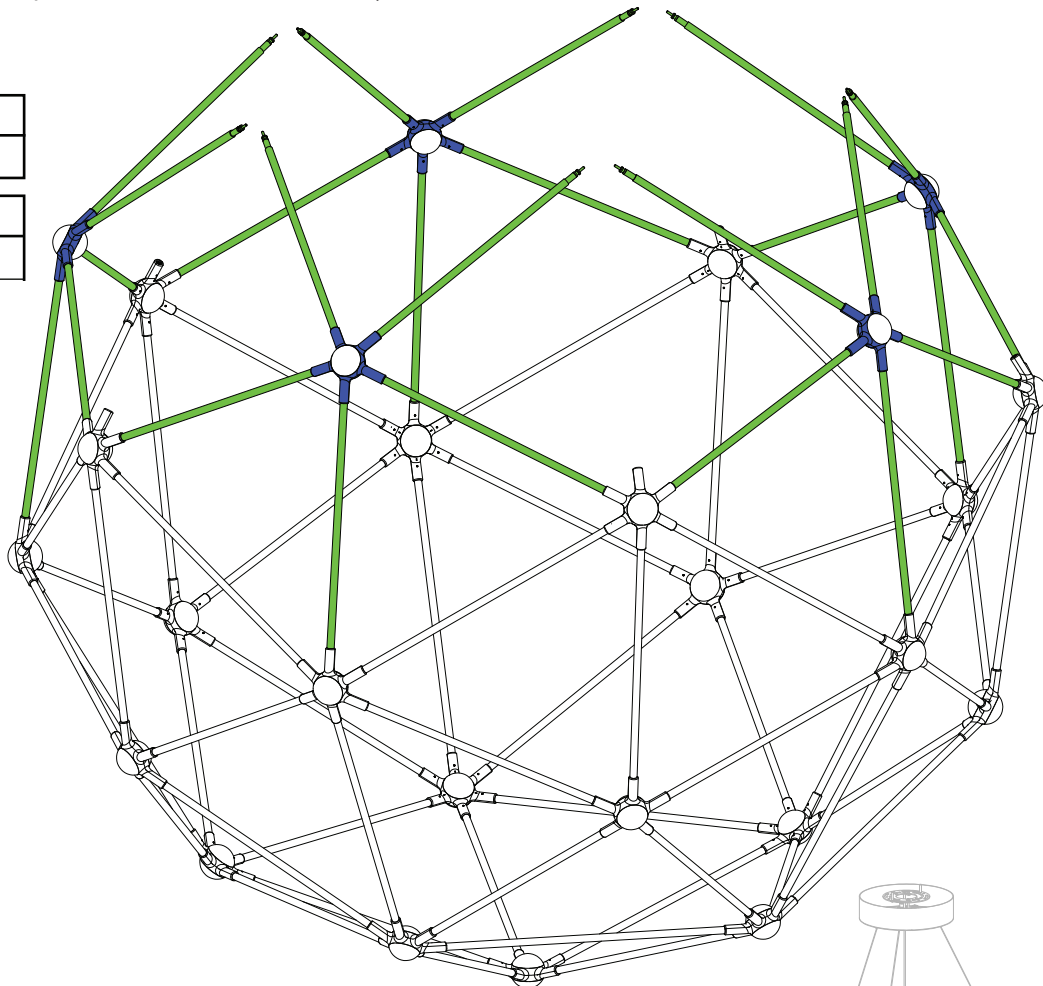

Fig. 12
- a. Attach five of the completed H5 Hub clusters to H6 Hubs as shown in Fig. 12.